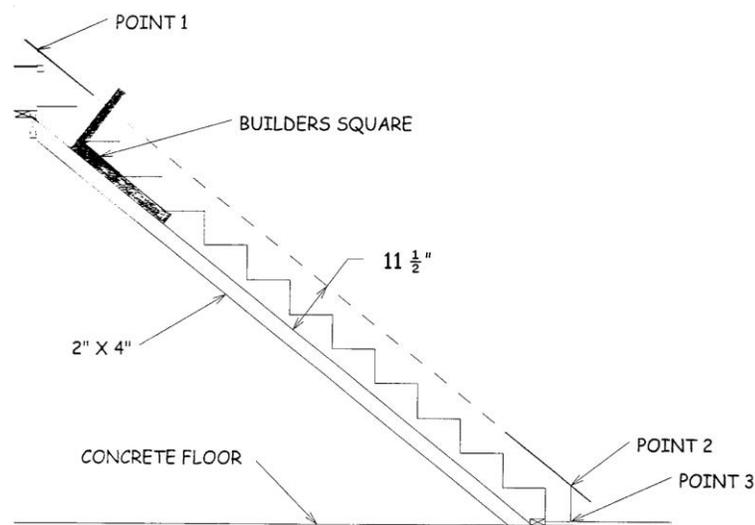

Figure 16-3. Skirtboard Installation.
5. Lay the 24” side of a framing square on the 2x4. Make two marks 11½” up from the 2x4 (the width of the skirtboard) about 3’ apart at each end of the stairway. Repeat on the other side of the stairway. (See Figure 16-3.)
6. Place a 6' level on the two marks at the top of the stairway (from Step 5) and scribe a line across the two marks to a point that intersects the plumb lines from Step 3. This creates Point 1, which must be at least 3" above the floor to be higher than the floor trim (see Figure 16-3). Then, using the two marks at the bottom of the stairway (from Step 5), draw a line to a point that intersects the plumb line. This intersection is Point 2 (see Figure 16-3). Repeat on the opposite side of the stairway.